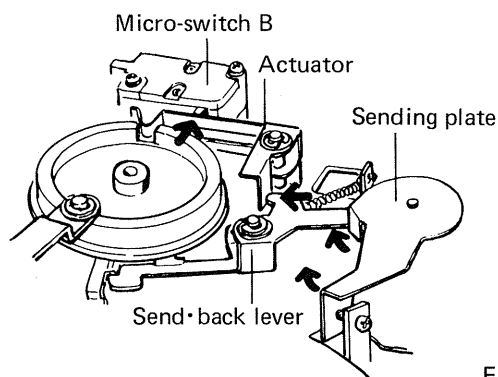

Fig. 10
2. When the stopper is repelled by the turntable pin, micro-switch B is turned on by the send back lever, thereby re-energizing the Warren motor (Fig. 10).